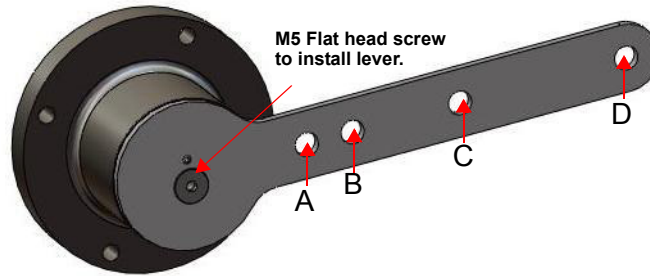

Figure 13 Magnet Holder and Standard Lever for Reciprocating Valves
2. Ensure that the lever is pinned to the magnet assembly and held securely by an M5 flat head screw to ensure that the magnet axis is vertical when the lever is in the valve closed position. Tighten the lever screw securely (Figure 13).